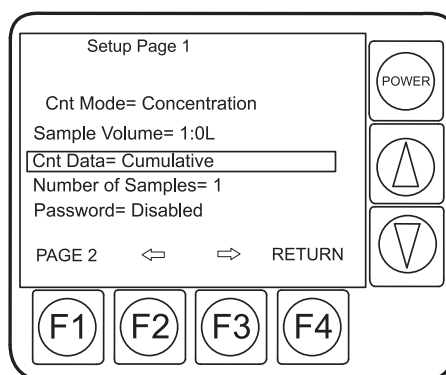

Figure 11 Setup screen with count mode selected
2. Press the **DOWN** arrow key to move to the Count Data field (refer to Figure 11 on page 21).